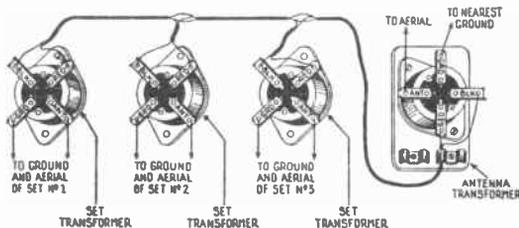

FIG. 5
**Multiple Receiver Operation.** Parallel connections or extensions may be made to the main transmission line and each lead connected to a set transformer, the latter, of course, located at its respective receiver. This is shown schematically in Fig. 5. More than four parallel connec-